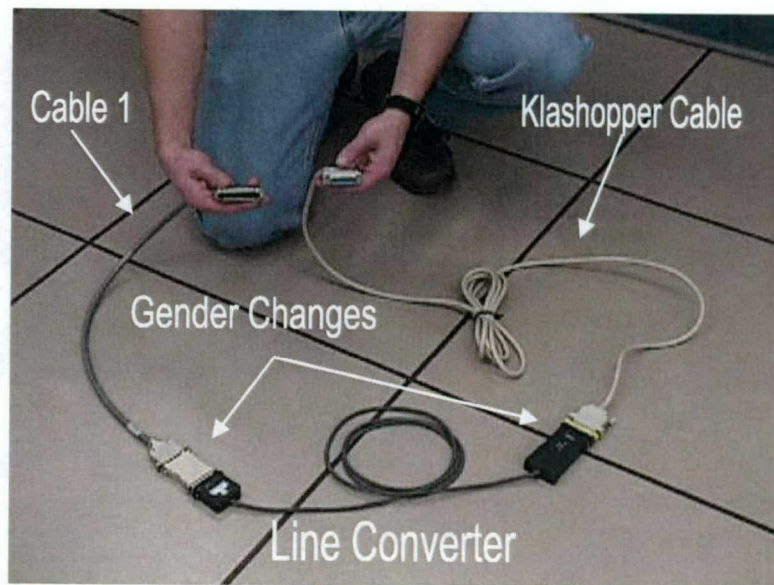

Figure 28. Cable 1 and Klashopper card cables
- a. Cable 1 connects the switchbox to the Klashopper card cables (Figure 28). Cable 1 contains a 37-pin male connector and 25-pin male connector. The 37-pin male connector plugs directly into Port A on the rear of the switchbox. The 25-pin male connector plugs into the line converter, which connects to the Klashopper card through the use of gender changers and additional cabling.